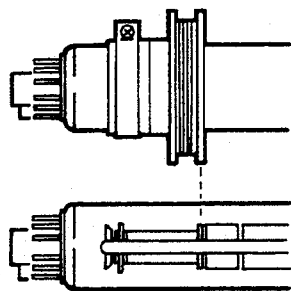

Fig. 1-2.
6. Set the neck assembly in the position shown in Fig. 1-2.